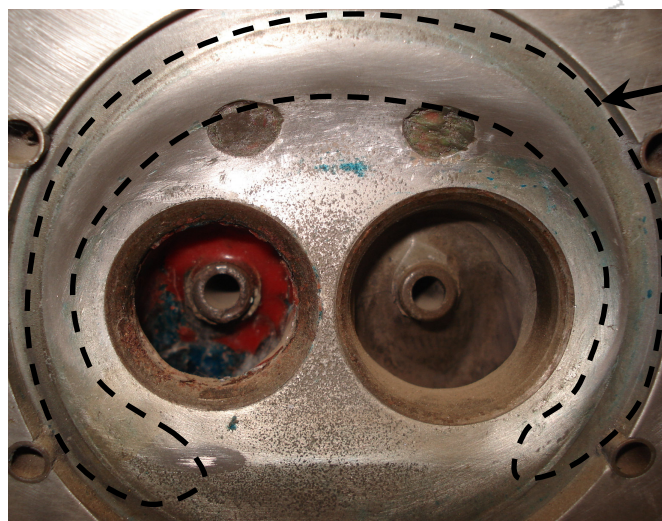

Figure 2 – Re-Worked “High Octane” Combustion Chamber
- The “High Octane” chamber can be modified as shown in Figure 2.
- Table 1 can be used to find which fuels should be used for a given engine. Example: 2200 engine, S/No. 800 with no shims fitted and therefore compression ratio of 8.3:1 (Section 2.2). Combustion chambers have been re-worked to Figure 2. Read the table as marked with the arrows, to the grey-shaded cell: the engine may use 95 Octane MOGAS.